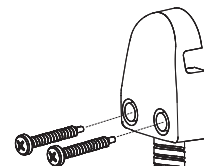

Figure 20
1. Route the power supply transformer wiring to a 110VAC outlet. **DO NOT** plug the transformer in at this time. (Figure 20)
2. Secure the door cord by installing the door cord clip into the end cap of the operator. (Figure 20)
3. Secure the opposite end of the door cord to the end link. The door cord sheathing will fit snugly in the grooves of the end link. (Figure 20)
4. Secure the end link to the frame or wall near the closer using the two (2) screws provided. (Figure 20)